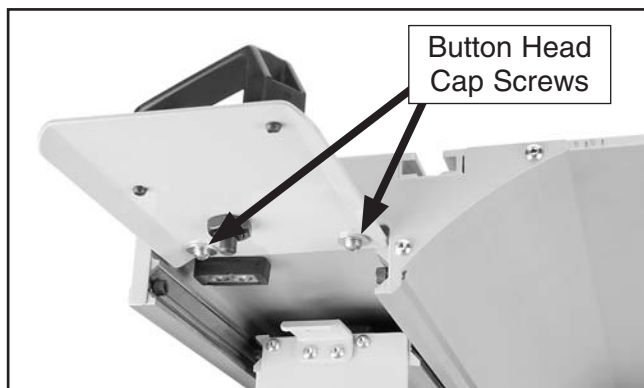

Figure 18. Sliding table handle attached to end of sliding table.
- Attach the push handle assembly, as shown in **Figure 18**, with the two button head screws and flat washers already installed in the mounting holes.